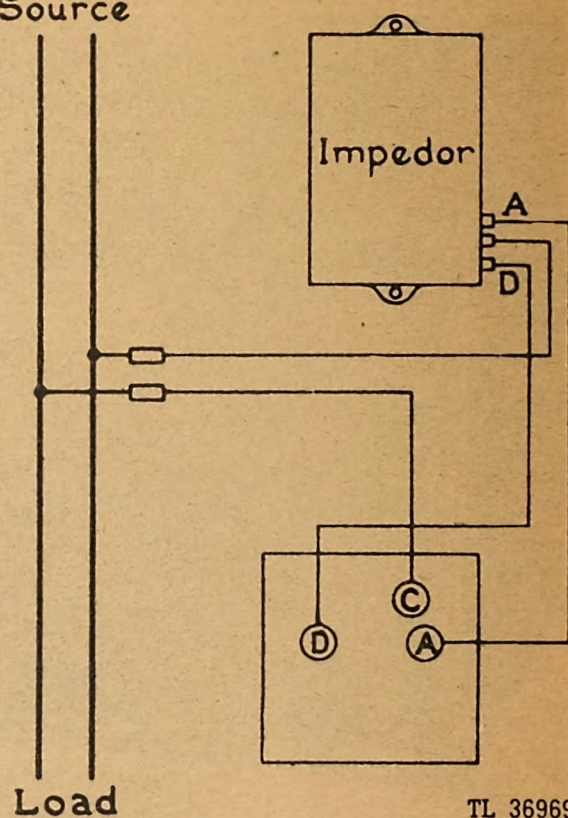

Fig. 317. Frequency Meter Connections without Transformer
*b. Frequency Meter.* The type AD-6 frequency meter is a rectangular pattern switch-board instrument designed for surface mounting. A separate impeder is provided. Figure 317 shows the frequency meter connections, schematic, with the impeder. The needle may stand at any position on the scale when no current is flowing through the instrument since no control springs are used.